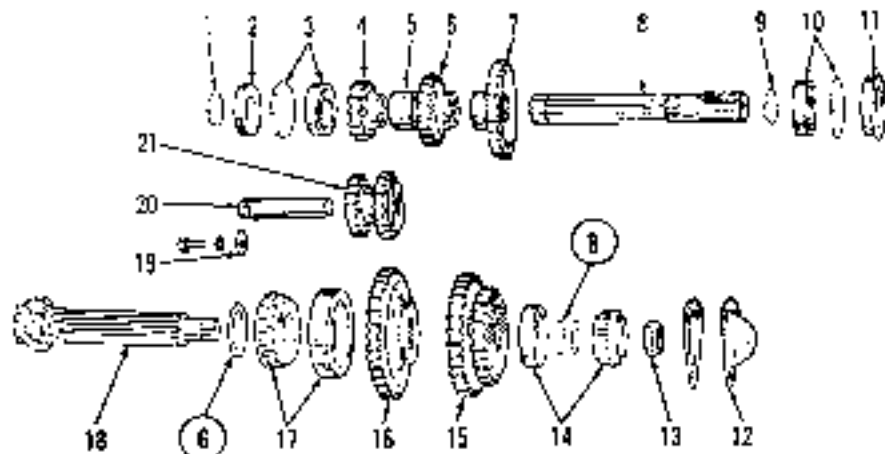

Fig. MH23—Pony transmission assembly. Shims (8) are for bevel pinion shaft bearing adjustment, Shims (9) are for mesh adjustment of main drive bevel gears.
51. **BEVEL PINTON (SLIDING GEAR) SHAFT.** This shaft (10, Fig. MH23) may be removed either before or after removal of input shaft (6, following paragraph) but it is recommended that it be removed last so that shaft can be locked in two gears or
56. Bevel pinion shaft and bevel ring gear are supplied as a matched set and must not be renewed separately. Adjust mesh of these bevel gears as follows: Install bevel pinion shaft and differential. Coat pinion teeth with red lead or prussian blue and rotate the pinion. Observe the impressions on ring gear teeth caused by contact of bevel pinion teeth. If bevel pinion teeth contact center of ring gear teeth as shown in Fig. MH26, they are correctly meshed; if not, add or remove shims (11-Fig. MH23) between bevel pinion and bevel pinion shaft bearing cone (17) to move the bevel pinion into correct mesh position. Note: In order to retain correct pre-load on bevel pinion shaft bearing, whatever thickness of shims (11) is added or removed from the shaft (1) same amount of shims (11) should be added or removed. Recheck backlash after mesh adjustment is complete.